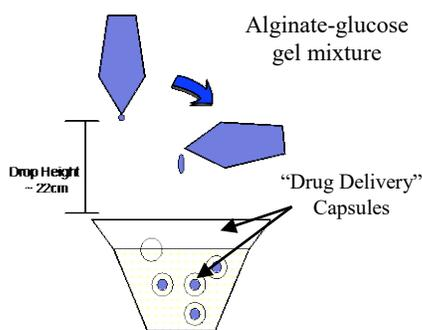

Figure 2. Demonstrating the method for drop formation in CaCl_2
6. Hold the container labeled “alginate-glucose” in a vertical position and from a height of approximately 22cm over the cup labeled “ CaCl_2 ” and gently squeeze the container until you observe the formation of a drop from the tip of the container. Then, rotate your container 90 degrees so that it is parallel with the cup containing CaCl_2 . Allow the drop that was forming to fall into the CaCl_2 solution (refer to Figure 2).